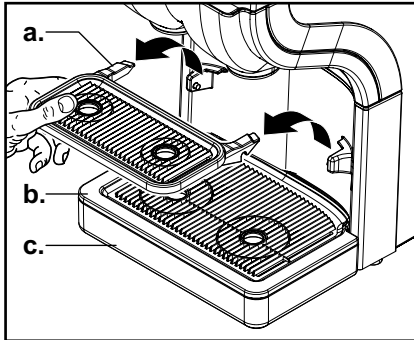

Fig. 31
2. Remove cup tray (a.), drip grid (b.) , and drip tray (c.), (fig. 31)